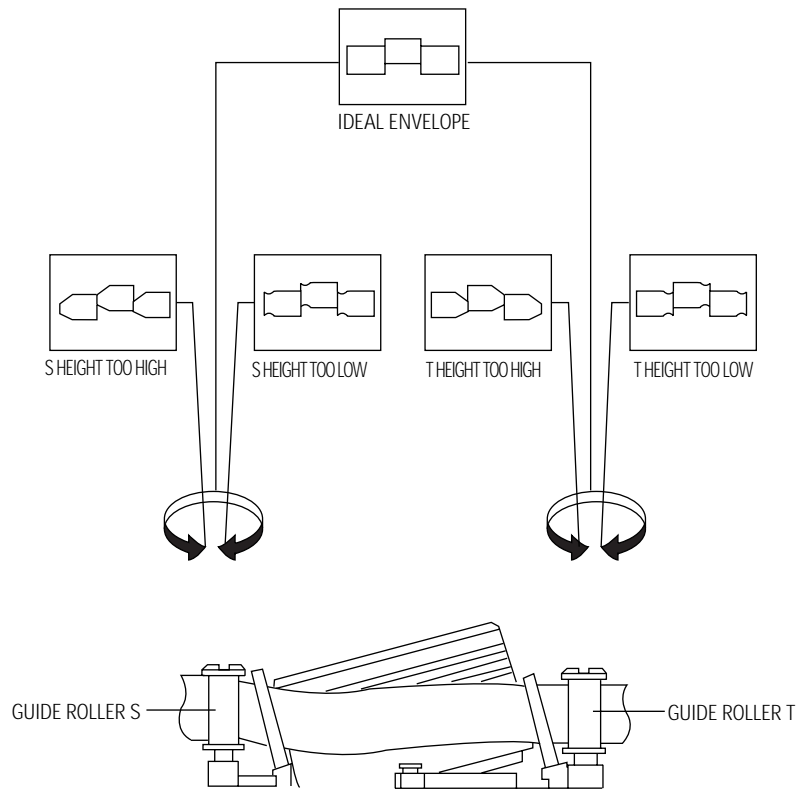

Fig. 6-16 Guide Roller S, T Height Adjustment
- 8) Turn the guide roller heads with a flat head (  ) driver to obtain a flat video RF envelope as shown in Fig. 6-16.